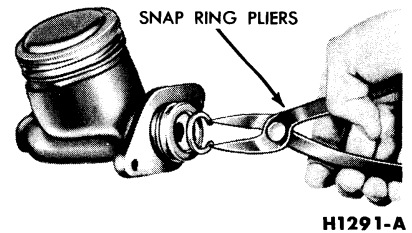

FIG. 20—Removing Snap Ring from Master Cylinder
3. Remove the snap ring from the bore at the rear of the cylinder with tool 33621 (Fig. 20).
4. Install the snap ring in the back of the bore (Fig. 20).